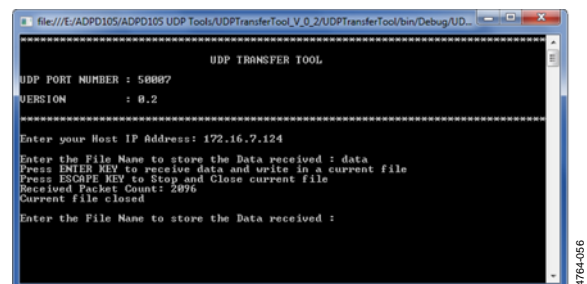

Figure 59. Closing the File
7. Press the **ESC** key to stop receiving the data and close the current file (see Figure 59).